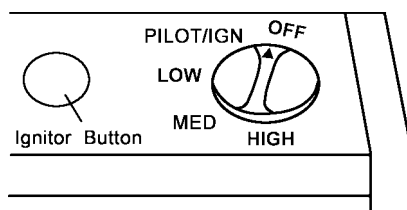

Figure 19 - Control Knob in The OFF Position
3. Push in control knob slightly and turn clockwise ↻ to the OFF position (see Figure 19).
5. Push in and turn control knob counterclockwise ↺ to PILOT position. Press in control knob for five(5) seconds.